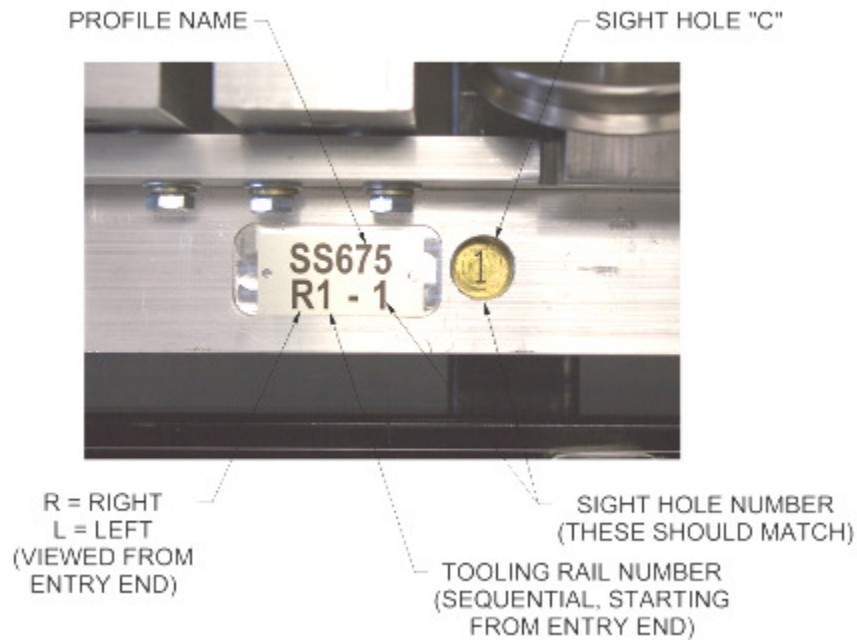

Figure 47: Tooling Rail Identification
7. Find the R1 Tooling Rail and set it flat on top of the Right Side Fixed Mount Rail #1 making sure the correct number shows in Sight Hole "C" (Figure 47). Thread the two mounting bolts into the slots of the rail and finger-tighten them. Pull the Tooling Rail assembly toward the outside of the machine until the two Tooling Rail Spacers "D" contact the face of the Fixed Mount Rail. Hold it in place while tightening the mounting bolts with a ½" wrench.